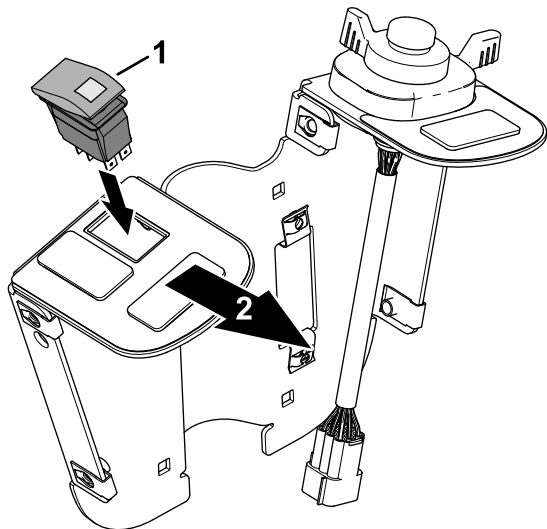

Figure 30
5. Align the rocker switch to the switch mount with the lens of the light to the front of the switch plate (Figure 30).